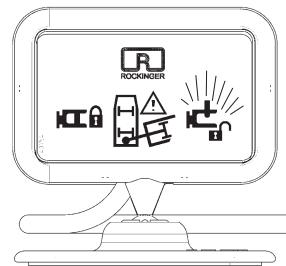

Fig. 19
- Function according 3.1 Fig 19 and 19a